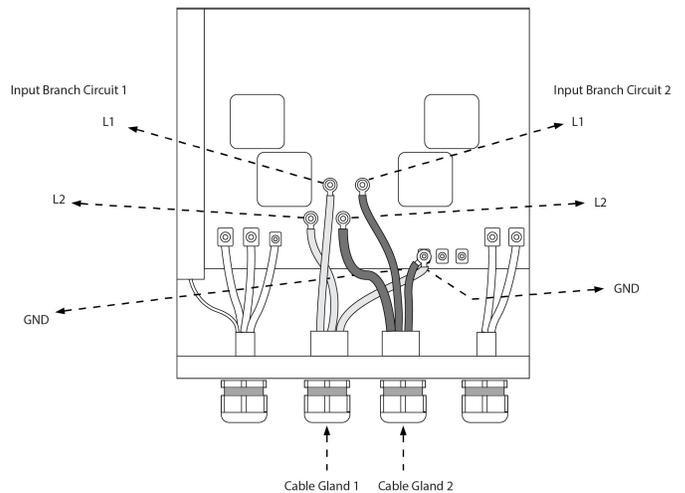

Figure 7
Instructions to wire the unit with two branch circuits of 80A each (refer Figure 7)
- Remove the cable gland sealer and screw in the cable gland (included) in the opening marked cable gland 2 in Figure 7. Pass the input wire of the second branch circuit through the cap of the gland into the unit box.
- Remove bus bars 1 and 2 (see Figure 7).
- Connect the input wires to the lugs for each channel on the unit board as marked in Figure 7